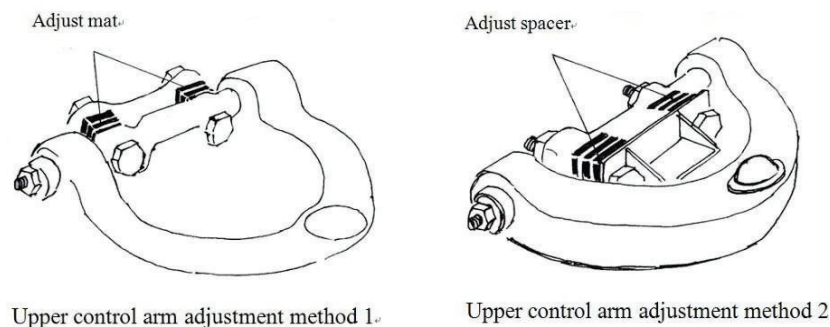

Fig. 1-18 Adjustment Parameters of the Upper Control Arm
1.5.1.2.1.2 The adjustment position of the double-wishbone independent suspension is generally at the position of the upper control arm with the main types including gasket type (Fig. 1-18), eccentric bolt type and long slot type, etc.